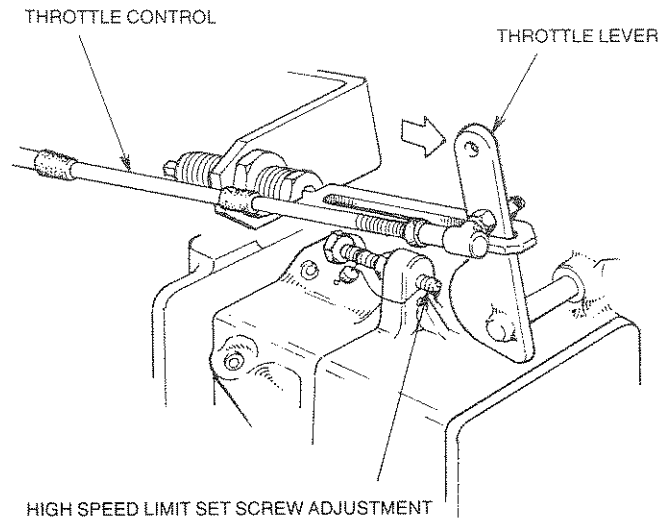

Figure 7. Model W13A Idle Position
1. Model W13A Only (See Figure 7)